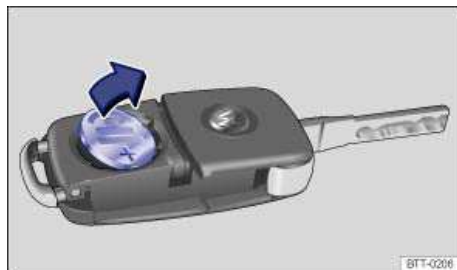

Fig. 26 Remote control vehicle key: Remove old battery.
- Use a thin object to pry the battery out of the battery compartment ⇒ fig. 26.
- Position the new battery in as shown ⇒ fig. 26 and press it into the battery compartment (opposite to direction of the arrow) ⇒ .